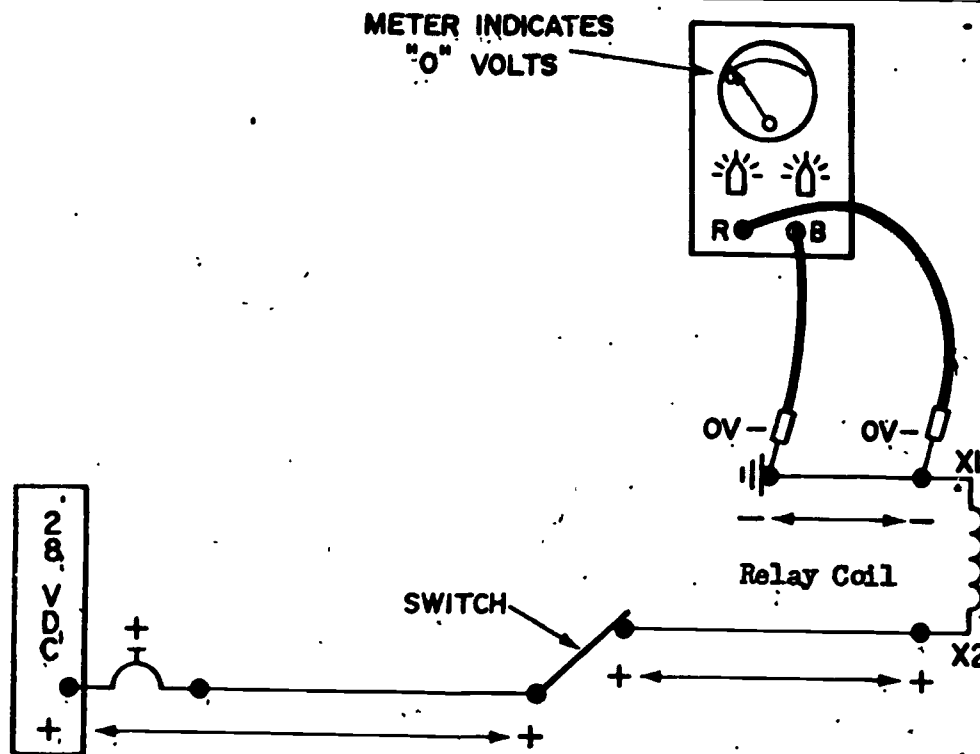
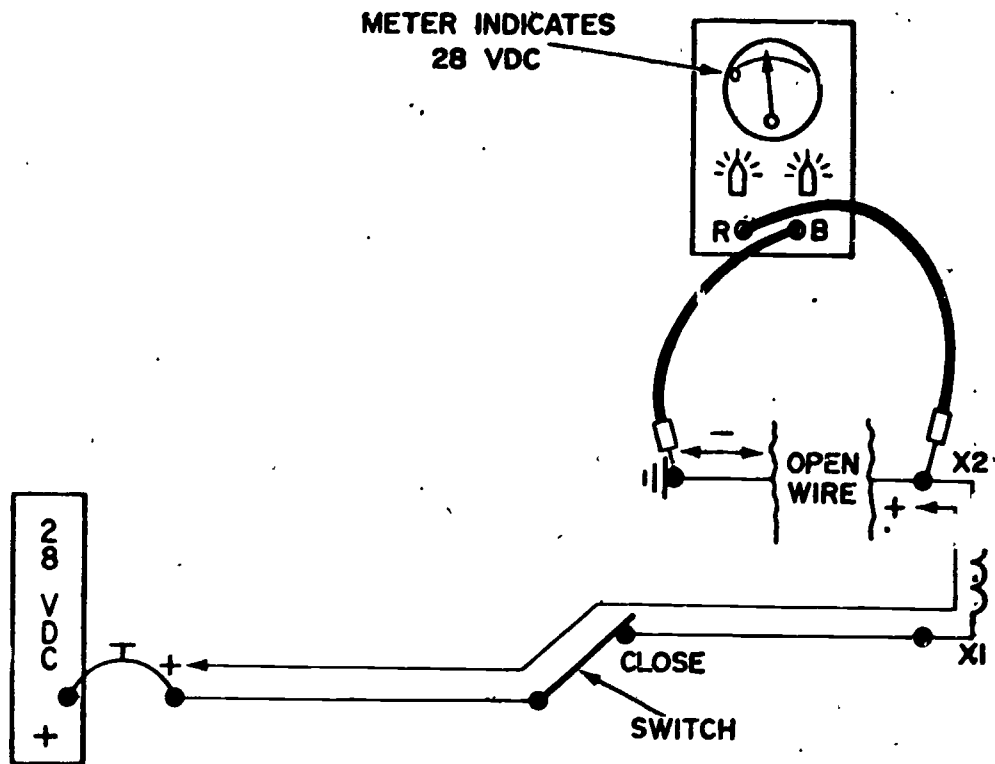

Figure 2.
Figure 3.
b. Now let's look at the negative side of the circuit. Refer to figure 2. If you were to place the meter leads in the circuit as shown, the meter also would give an indication of "0" volts.
c. IF you had a voltage reading on the negative side of the circuit in figure 2, which you should NOT have, it would stand to reason that something must be wrong with the circuit, but what?
(1) Refer to figures 2 and 3 and note in figure 3 that the ground wire for this circuit is broken (which will automatically make the circuit not work). Note the way the meter is connected in figure 3. The 28V DC reading is caused by the (high resistance) open wire in the ground circuit.
(a) There is a definite voltage difference in the ground circuit in figure 3.
(b) Only one side of the broken ground circuit in figure 3 is now physically connected to just the positive side (+) of the circuit. This is the part of the ground circuit connected to X2 of the relay coil.
(c) The other side of the broken ground circuit in figure 3 is physically connected to the negative side (-) ground point of the circuit.
(d) The black meter lead is connected to the negative side in figures 2 and 3.
(e) The red meter lead is connected to the positive side in figures 2 and 3.
1 The meter reads the difference between the two points (+ to -). This is because of the broken ground wire. If the wire was not broken you would have the conditions as shown in figure 2, a good circuit.